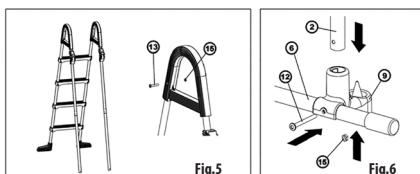

Fig. 6
Put the lower anti-skid fixtures (9) on the supporting stiles from below and insert the strut tube (6) in. Secure the fixtures with the strut with appropriate screws (12). (**Fig. 6**) The lower fixtures should be tightened only after completing the assembly of the entire ladder with its removable part fitted on.